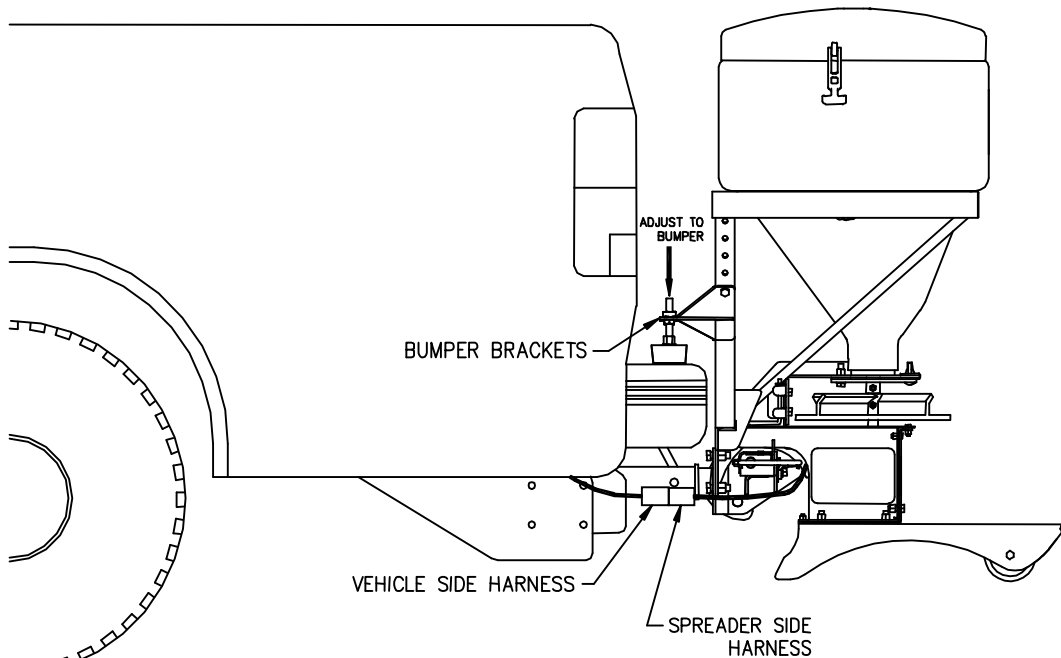

Figure 12. Bumper Bracket Adjustment
- 9) Adjust Bumper Brackets to Vehicle Bumper by rotating adjustment bolt (See Figure 12). When Spreader is level and secured firmly in place, tighten Jam Nuts.
10) Plug Spreader Side Harness into Vehicle Side Harness (See Figure 12).